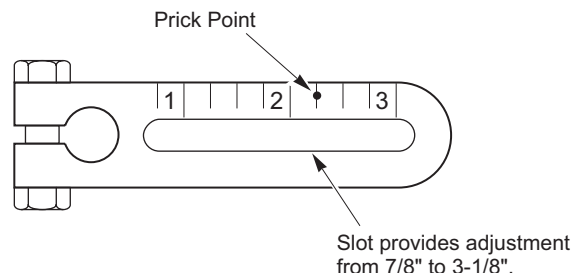
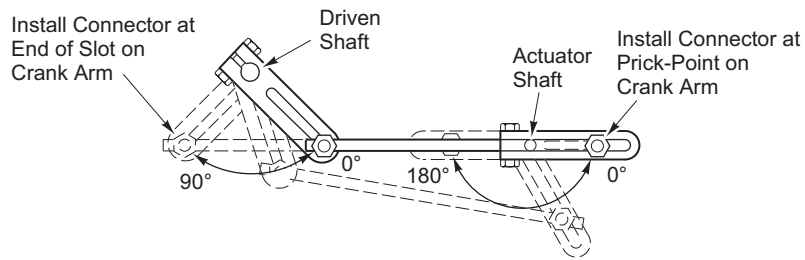

Figure-3 Location of Prick Point on Crank Arm.
Figure-4 180° Actuator Rotation Driving a Damper Rotation of 90°.
3. Install a linkage connector onto the actuator shaft crank arm, at the prick point. Refer to Figure-3 and Figure-4.
4. Install a linkage connector onto the driven shaft crank arm, at the end of the slot. Refer to Figure-4.